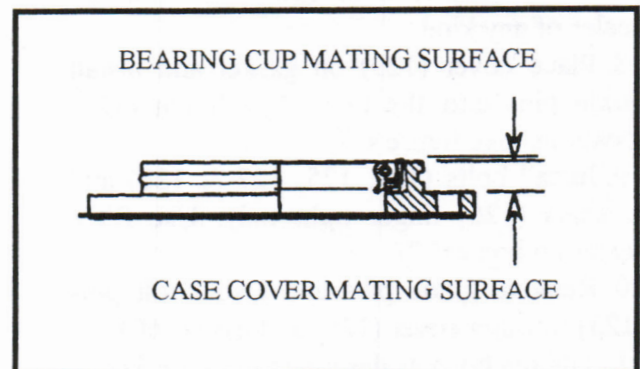

Figure 1-10. Measure taken from bearing retainer.
5. **Measure the distance between the two bearing retainer (119) surfaces as shown in figure 1-10 and record.**
7. **Add .009 inch (.007-.010inch) to the measurement determined in step 6. This is the total thickness of the shim pack (122) to be placed on the output bearing cup.**